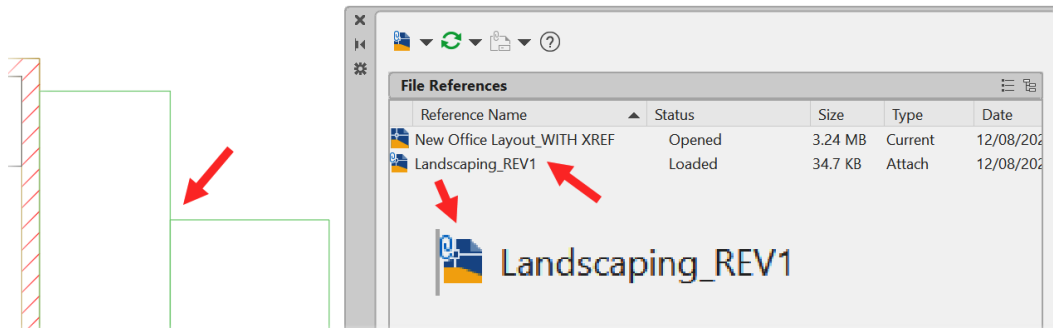

Figure 14.19: The EXTERNAL REFERENCES palette with the current Xref arrowed and the Xref filename enlarged
2. The **EXTERNAL REFERENCES** palette will open, and you can see the attached Landscaping\_REV1 . dwg Xref on the palette, as arrowed in *Figure 14.19*. The Xref is also arrowed in the drawing for clarity.
Looking closely at the attached Xref file in the **EXTERNAL REFERENCES** palette, as shown in *Figure 14.19*, you will see a *paper clip* symbol on the blue and yellow DWG icon to the left of the filename. This indicates an attached Xref file. The host DWG file (at the top of the list on the palette) does not have the paper clip symbol, indicating it is the host drawing file.